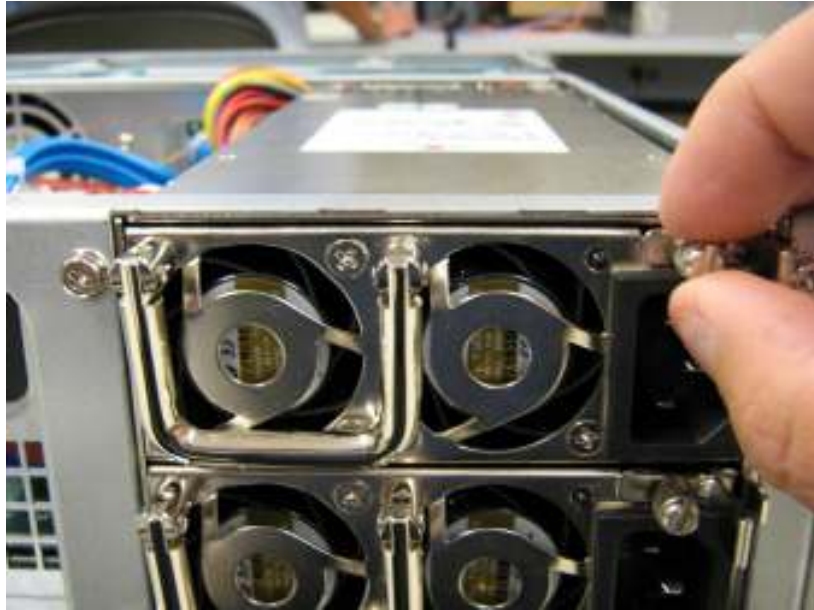

Figure D-19 Unscrew the Bolt Holding the Locking Mechanism
1. Locate the failed power supply module. Unscrew the bolt holding the locking mechanism in place as shown in Figure D-19.